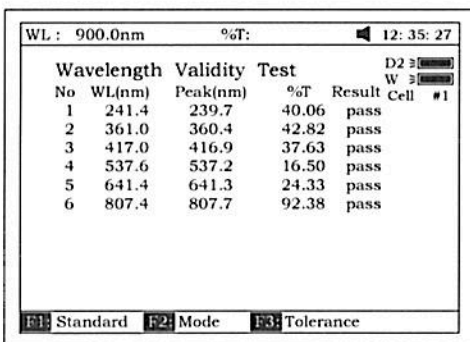

Fig 99
5. Put the sample (calibrated holmium liquid) into Main Light Path. Press **【START】** to check. The results will be displayed on the screen (Fig 99). If the discrepancy between the results and the calibrated values is not more than the tolerance, "pass" will be displayed after the test results. Otherwise, "fail" will be displayed.